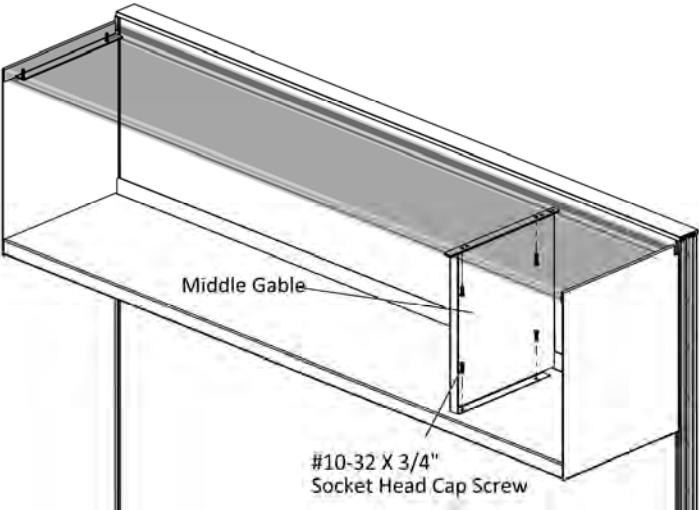

Figure 5
- 7. Position the middle gable at desired location and securely fasten it to the top and bottom shelves with 10-32 X 3/4" Socket Head Cap Screws, (Figure 5).